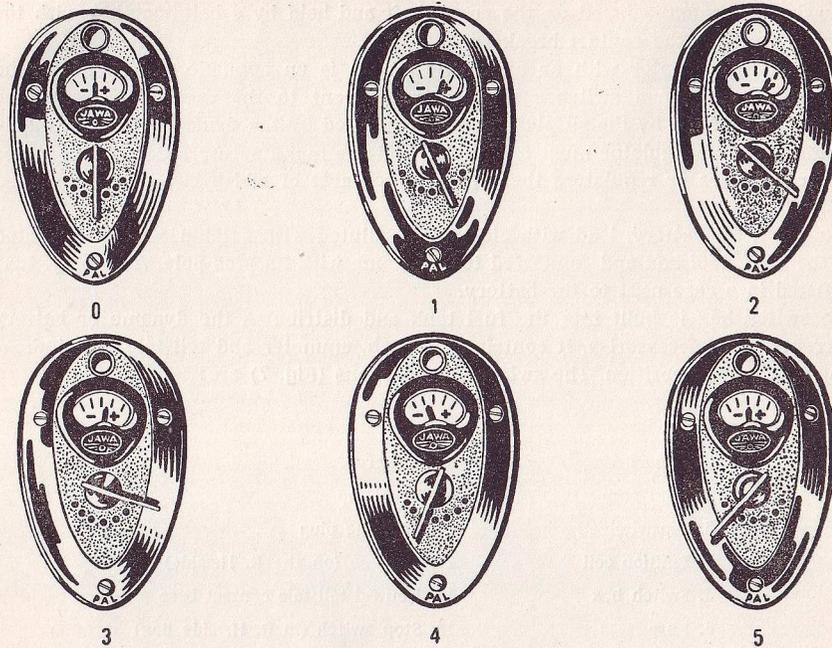
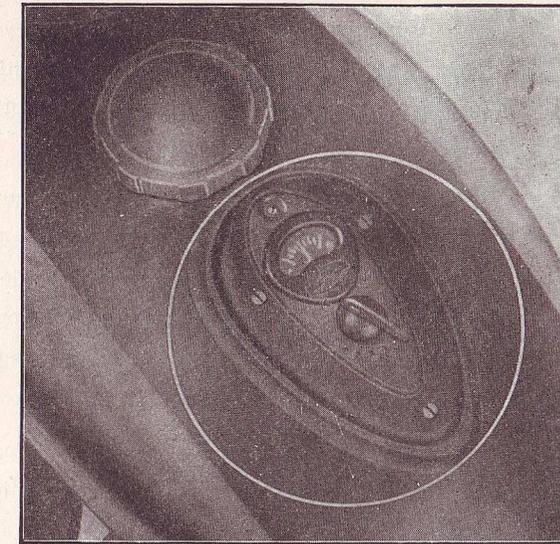

Fig. 7. Switch box — key positions
Fig. 12. Neutral position „N” tell tale bulb.
The **switch box** is built into the fuel tank and distributes the dynamo or battery current to the accessories. It contains a **switch**, ammeter and tell tale bulb indicating the neutral position. The **switch key positions** (Fig. 7) are:
- b) Insert the ignition key into the switch box and turn to the corresponding position (Fig. 7). If the battery is in order the ammeter will register a discharge — (minus). If the tell tale „N” (fig. 12) does not light up shift into neutral between the bottom and second gear. Never leave the motor-cycle standing for any length of time with the ignition on as the battery would become discharged and the resistances or ignition coils could suffer damage.